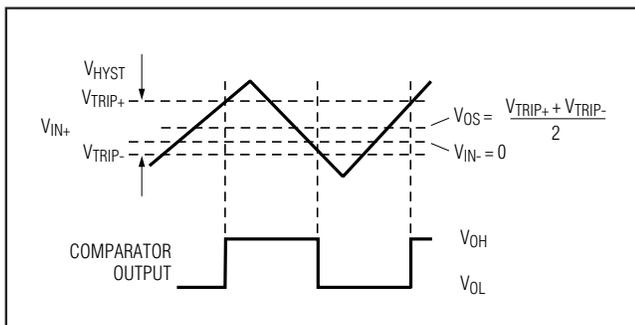

Figure 1. Input and Output Waveforms, Noninverting Input Varied
- Note 3:**  $V_{OS}$  is defined as the mean of trip points. The trip points are the extremities of the differential input voltage required to make the comparator output change state (Figure 1).
- Note 4:** The difference between the upper and lower trip points is equal to the width of the input-referred hysteresis zone (Figure 1).
- Note 5:** Propagation Delay is guaranteed by design. For low overdrive conditions,  $V_{TRIP}$  (Figure 1) is added to the overdrive.
High-speed comparators can oscillate in the linear operating region because of noise or undesired parasitic feedback. This tends to occur when the voltage on one input is equal to or very close to the voltage on the other input. The MAX976/MAX978/MAX998 have internal hysteresis to counter parasitic effects and noise. The hysteresis in a comparator creates two trip points: one for the rising input voltage and one for the falling input voltage (Figure 1). The difference between the trip points is the hysteresis. When the comparator input voltages are equal, the hysteresis effectively causes one comparator input voltage to move quickly past the other, taking the input out of the region where oscillation occurs.
Figure 1 illustrates the case where  $IN-$  has a fixed voltage applied and  $IN+$  is varied. If the inputs were reversed, the figure would be the same, except with an inverted output.